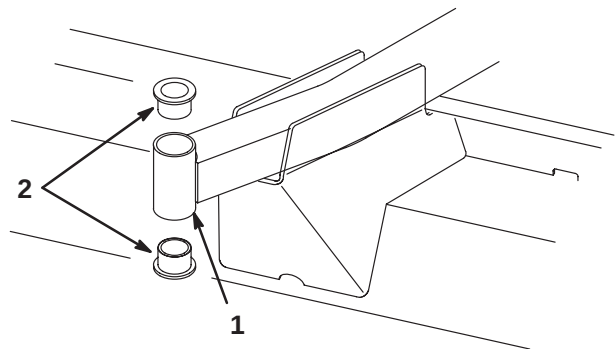

Figure 32
4. Insert a pin punch into the top or bottom of the mounting tube and drive the bushing out of the tube. Also drive the other bushing out of the tube (Fig. 32). Clean the inside of the tubes to remove dirt.